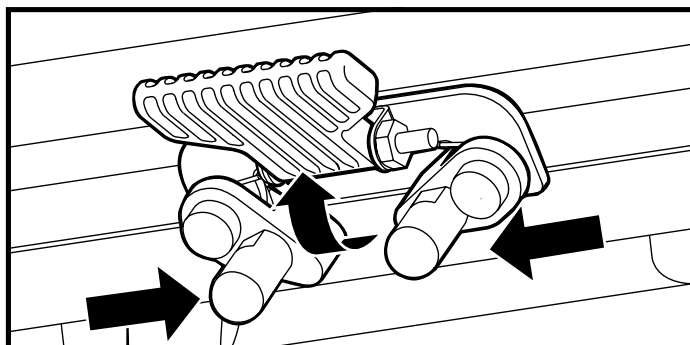

Figure 12. Seat Height Adjustment - Seat Latch Safety
3. Flip up the seat latch safety. See figure 12.